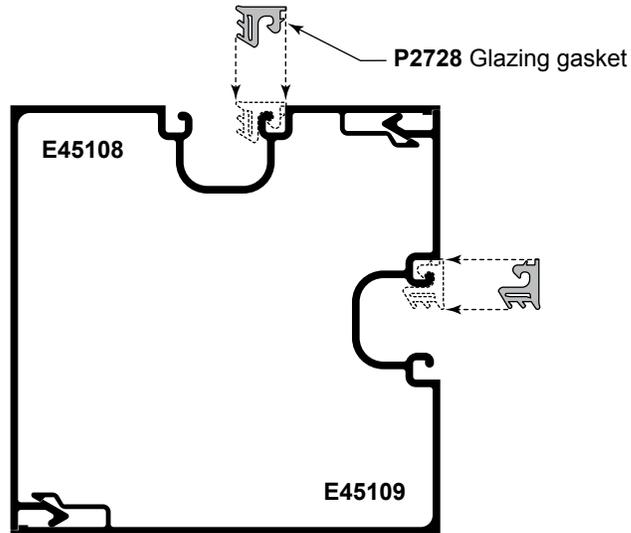

Fig. 41.1
- A. Install interior gaskets at corner assembly as shown in Fig. 41.1.